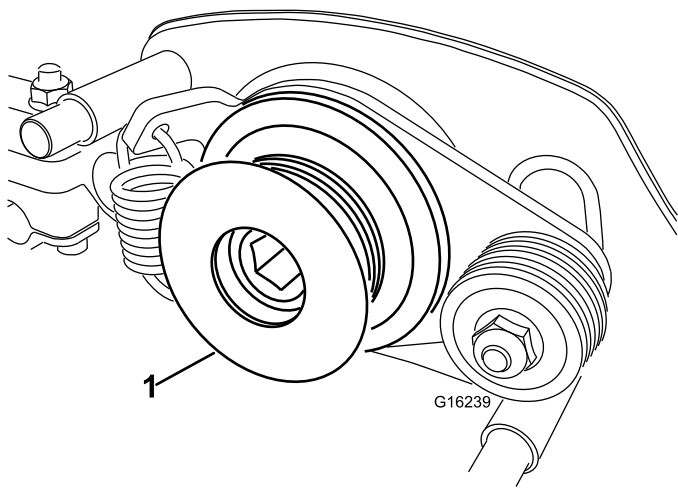

Figure 35
7. Remove the groomer drive pulley from the reel shaft (Figure 35).